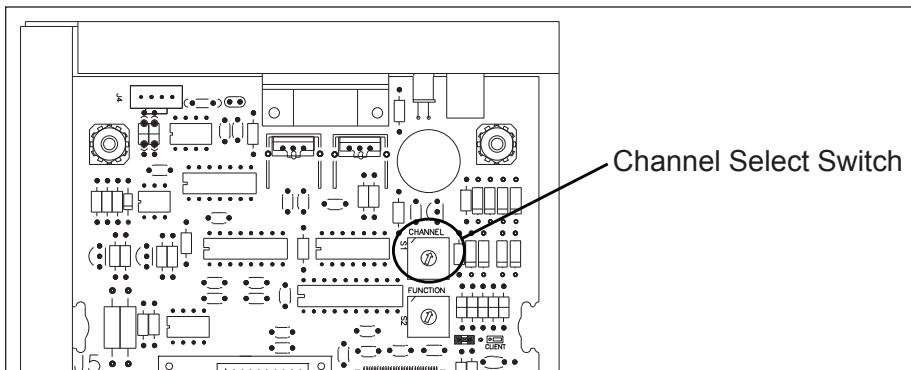

Figure 15: Channel Select Switch (Internal Receiver)
1. Use a small flathead screwdriver to set the S1 switch (**Figure 15**) to the desired channel (1-15).